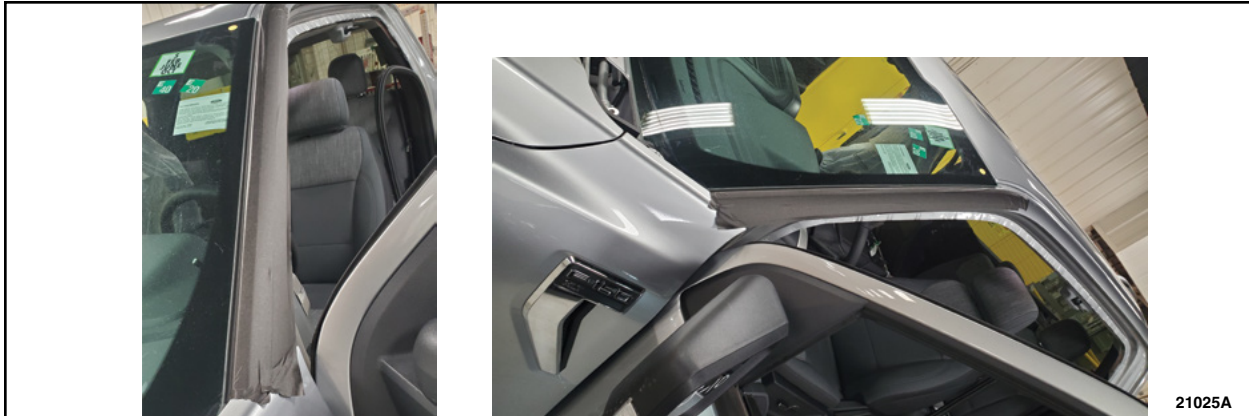

FIGURE 17
17. Apply tape to the perimeter of the windshield to protect from paint damage. See Figure 17.